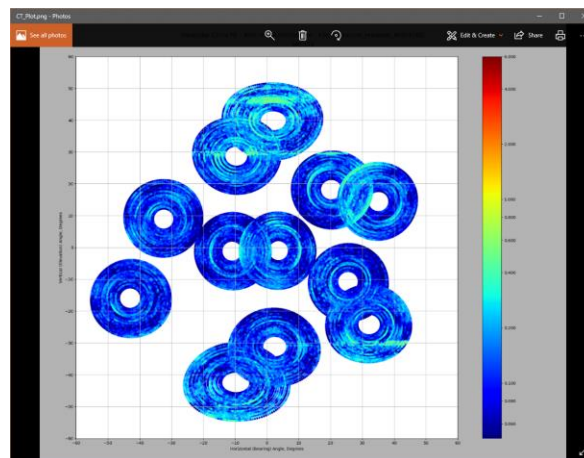

Figure 7 – Open Image in Separate Viewer
- When this button is clicked, the image file is opened in the default image viewer for windows (see Figure 7). This will allow the operator to view the image in a larger window.